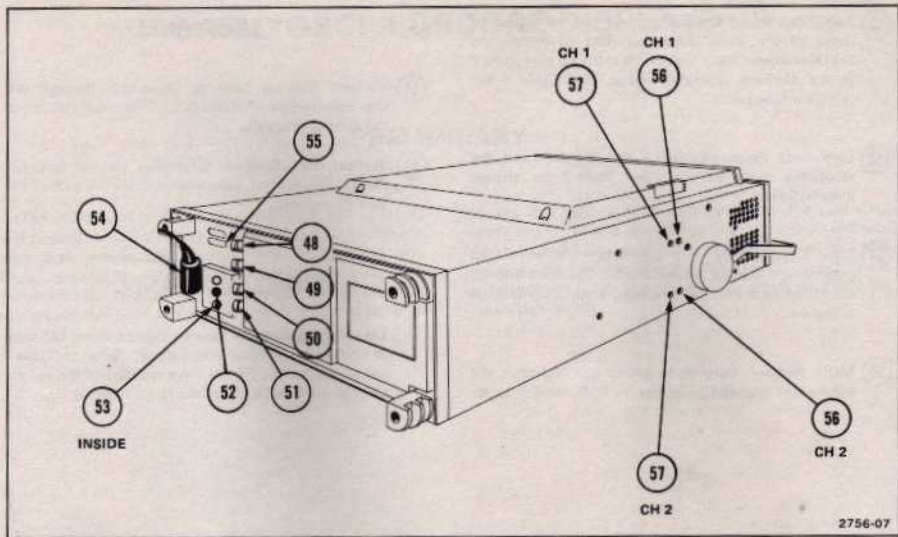

Figure 7. Rear panel and left side panel controls, connectors, and indicators.
Refer to Figure 7 for location of items 48 through 57.
- ④8 A +GATE—Output bnc connector provides a positive-going pulse coincident with the A Sweep time.
- ④9 B +GATE—Output bnc connector provides a positive-going pulse coincident with the B Sweep time.
- ⑤0 CH 1 VERT SIGNAL OUT—Output bnc connector provides a sample of the signal applied to the Channel 1 preamplifier via the input connector.
- ⑤1 EXT Z-AXIS—Input bnc connector permits the application of an external signal to intensity modulate the crt display. Does not affect display wave-shape. Signals with fast rise time and fall time provide the most abrupt intensity change. Signals must be time-related to the display for a stable presentation on the crt. The connector is useful for adding time markers in uncalibrated modes of operation.
52 **Regulating Range Selector Bar**—Selects the regulating range of the 465B power supplies to match the available power input source. It is shown on Figure 7 in the Medium regulating range. See Table 1 for change information.